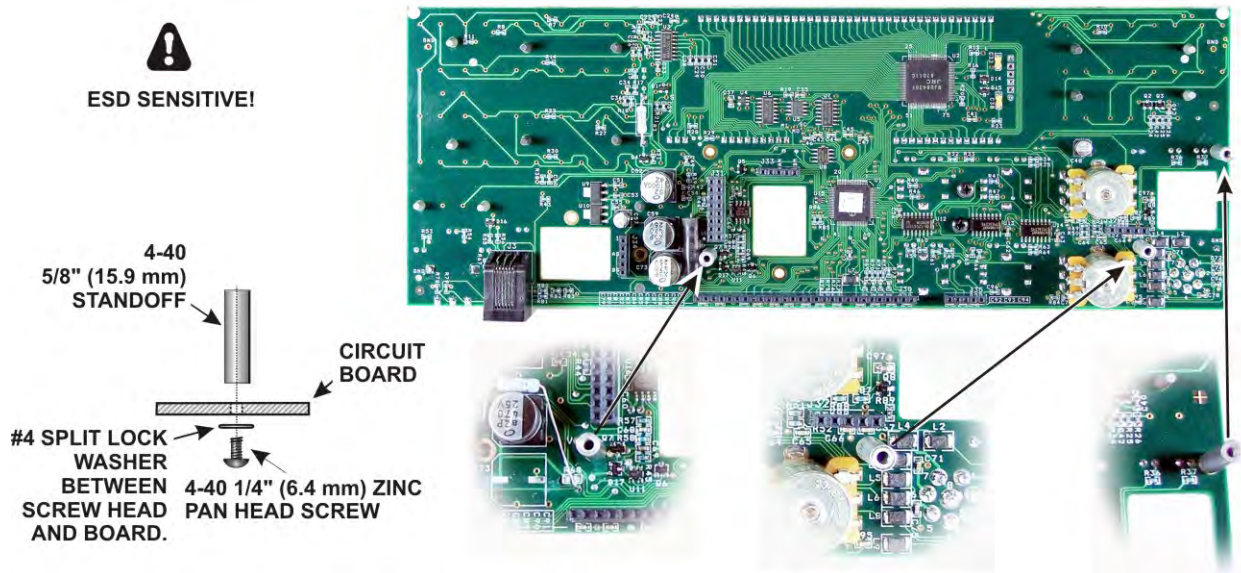

Figure 37. Preparing the Front Panel Board for Mounting, Part 1.
Mount three standoffs on the back of the front panel board as shown in Figure 37 . Place the lock washer between the screw head and the board as shown.
- Three 4-40 5/8" (15.9 mm) standoffs are mounted on the back as shown in Figure 37.